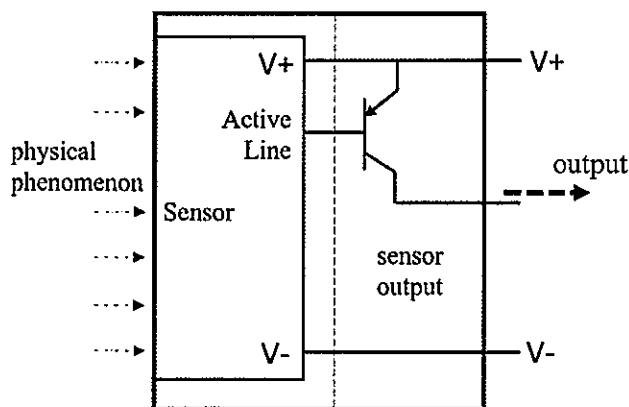

Figure A1(a)/Rajah A1(a)
- CLO1 a) A logical sensor can be used with sourcing (PNP) or sinking (NPN) techniques for output wiring. Based on Figure A1(a), explain the operation of a sensor using the sourcing (PNP) technique in terms of the sensor's active and inactivated states.